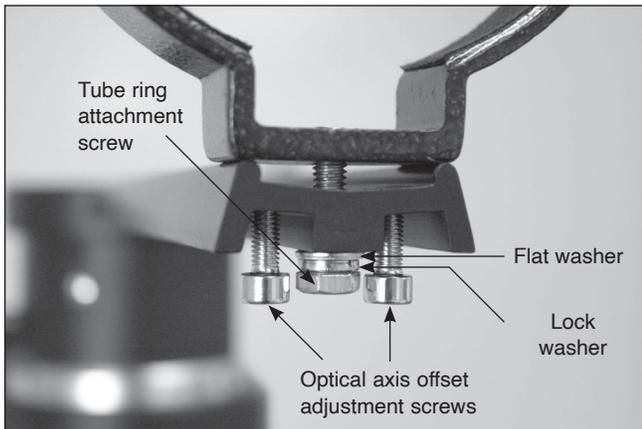

Figure 6. The tube ring mounting plate, or dovetail mounting bar, shown with tube ring (sold separately) attached.
1. If using the included dovetail mounting bar, attach the tube rings to the bar using the screws that came with the tube rings. The screws should go through the center holes in the ends of the mounting bar and rethread into the tube rings. Note that the side of the mounting bar with the central “groove” will be facing up (**Figure 6**). Use a small wrench to secure the tube rings to the mounting bar.
Note: *The tube ring mounting bar has four optical axis offset adjustment screws located at each corner of the mounting plate. The screws should be oriented so that the threaded shaft extends upward through the top surface of the tube ring mounting bar. If the mounting bar arrives with the optical axis offset screws installed backwards, reverse their orientation to that shown in Figure 6 before proceed-*